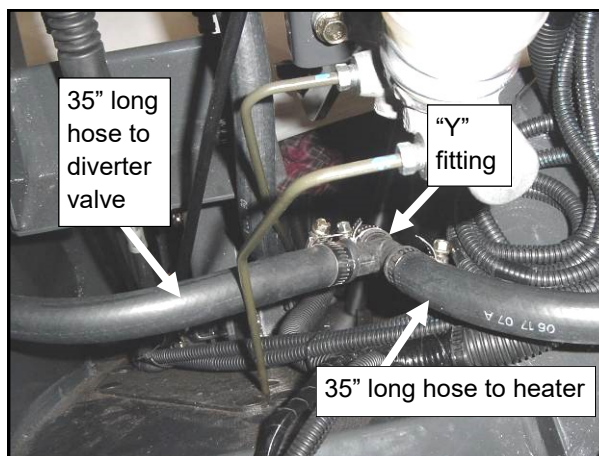

Fig. 3.9 (view from front of vehicle)
3.9 On the remaining ends of the "Y" fitting, connect two pieces of 35" long hose. See fig. 3.9. One hose goes to the heater and the other hose goes to the bottom port on the diverter valve. See the flow diagram on the next page. Use the supplied hose clamps. Note: it does not matter which side of the heater each hose is connected to.